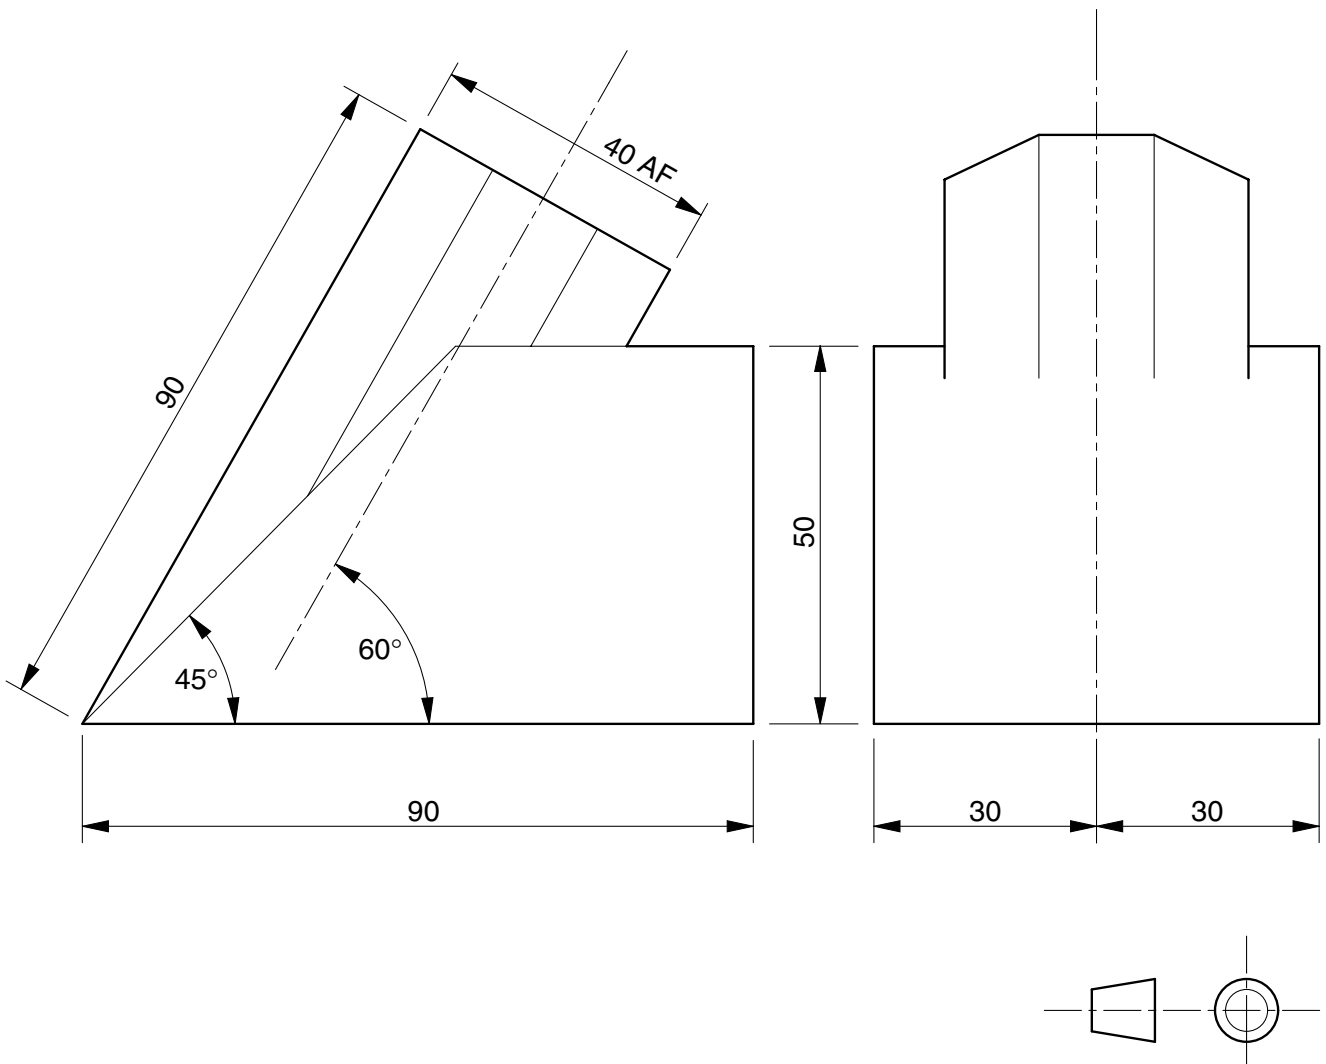

Fig. 3
- 5 Fig. 3 shows the elevation and incomplete end elevation of a prism intersected by a right regular octagonal prism measuring 40 mm across the flats.